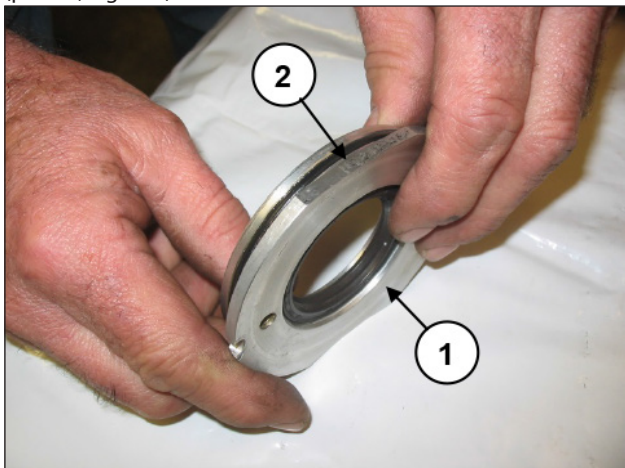

Fig. 116
Replace the oil seal (pos. ①, Fig. 116) and the external O-ring (pos. ②, Fig. 116).